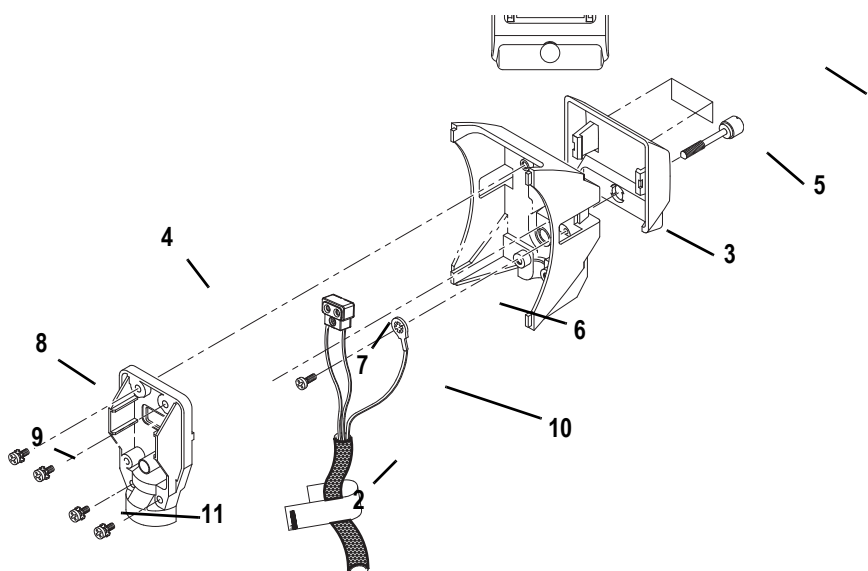
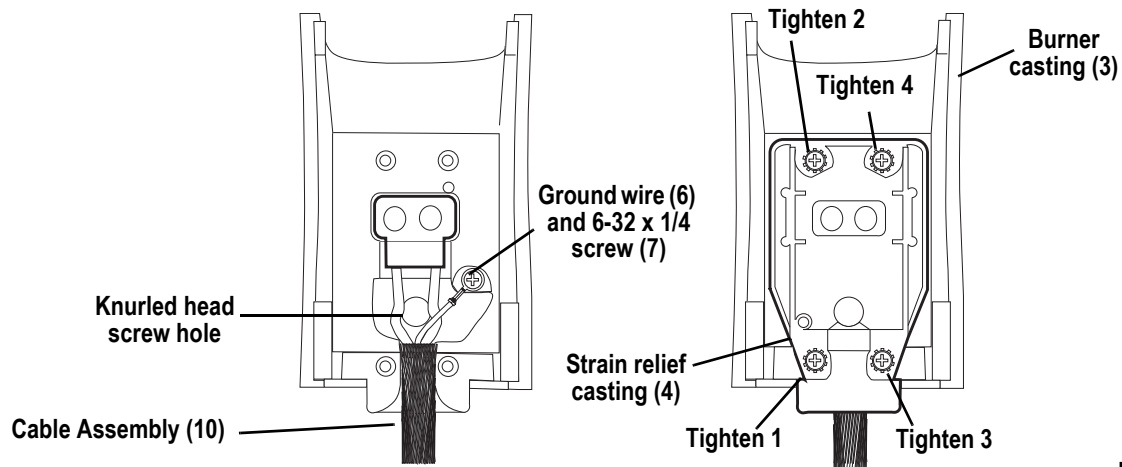

Figure 2
Figure 3
Step 1: Snap the focus handle (5) onto the burner (3). See Figure 2.
Step 2: Secure the ground wire lug (6) onto the burner casting (3) using screw (7).
Step 3: Place the cable assembly (10) into the burner casting (3). See Figure 3.
Step 4: Insert the screws (8) into the four positions in the strain relief casting (4). See Figure 3.
Step 5: Position the cable assembly (10) as shown in Figure 3.
Step 6: Place the strain relief (4) on the burner casting (3). Loosely attach the screws (8). The cable assembly (10) must be centered in the strain relief opening (4). See Figure 3.
Step 7: To guard against stripping the screws, tighten them in the order shown in Figure 3.
Step 8: Make sure the focus handle is secure, then insert the knurled head screw (1) through the handle (5) into the burner casting (3). Tighten securely.
Step 9: Attach safety wire (11) to strain relief using the screw (14) as shown in Figure 2.